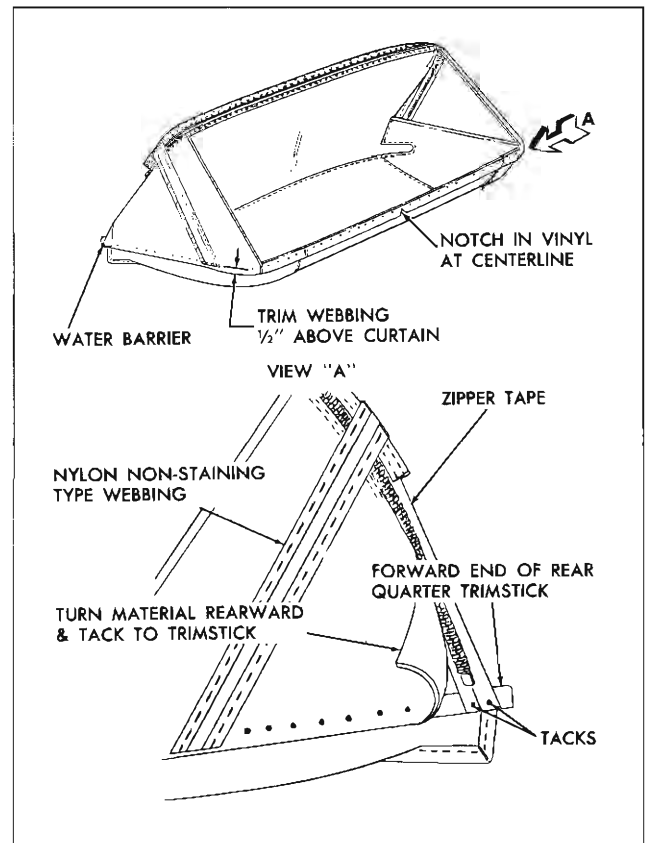

Fig. 21-24 Back Curtain Installation
NOTE: Notch in back curtain vinyl at lower edge indicates centerline of back curtain assembly (Fig. 21-24). In addition, back curtain lower edge should extend approximately 1/2" below lower edge of trim sticks.
8. Tack curtain to rear and rear quarter trim sticks. On right side, tack zipper tape to forward edge of rear quarter trim stick (see A in direction of arrow in Fig. 21-24).
9. Tack remainder of back curtain material to rear quarter trim stick, turning forward edge of material rearward to form a water barrier (Fig. 21-24).
11. Tack nylon webbing to rear trim stick. Forward edge of webbing should be even with edge of rear trim stick. New webbing may be cut from a piece of non-staining type webbing 2" x 19". Excess webbing should be trimmed off at rear trim stick, 1/2" above back curtain lower edge (Fig. 21-24).